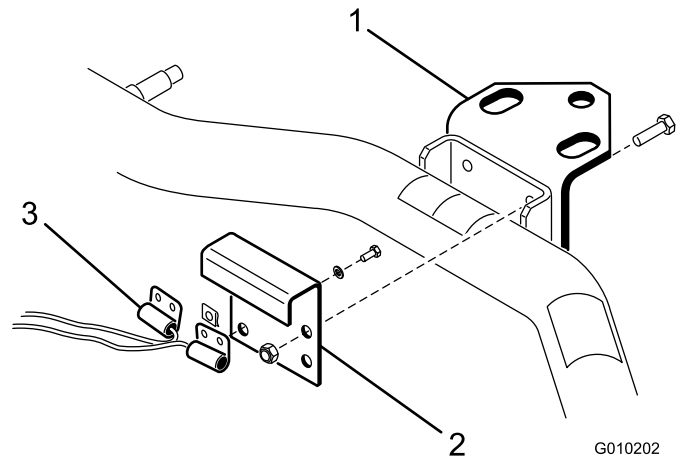

Figure 6
1. Remove locknuts securing hitch plate to rear axle (Figure 6). Using the upper set of mounting holes,